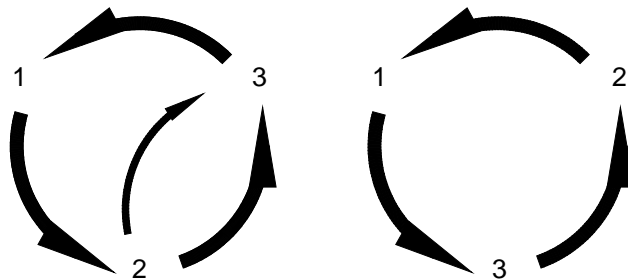

Figure 14
6. Press both cut buttons simultaneously to activate the motor and check to make sure it is turning the same direction as the arrow on the motor casing. If it isn't, disconnect the power and simply exchange any two leads of the power cord as in Figure 14 on page 18. The motor will now turn the correct direction. Double check to make sure.